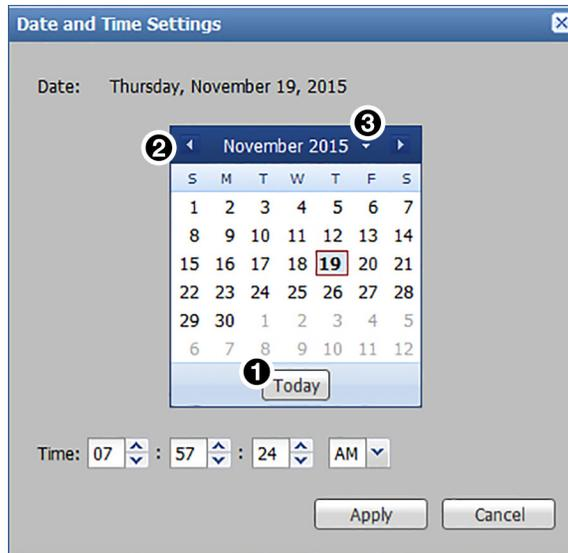

Figure 47. Date and Time Settings Dialog Box
- Click the **Today** button to set the date to the current date on the PC (see figure 47, **1**).